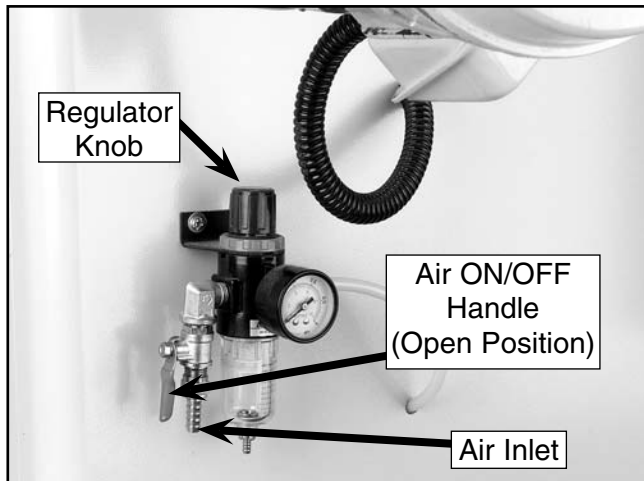

Figure 11. Air inlet located on regulator.
1. Connect the hose from your air compressor to the air inlet (**Figure 11**) on the regulator.
3. Lift the regulator knob (**Figures 11** and **12**) and turn it until the air pressure gauge reads 75 PSI. **Note:** Turn the knob clockwise to increase the air pressure and counterclockwise to lower the air pressure.